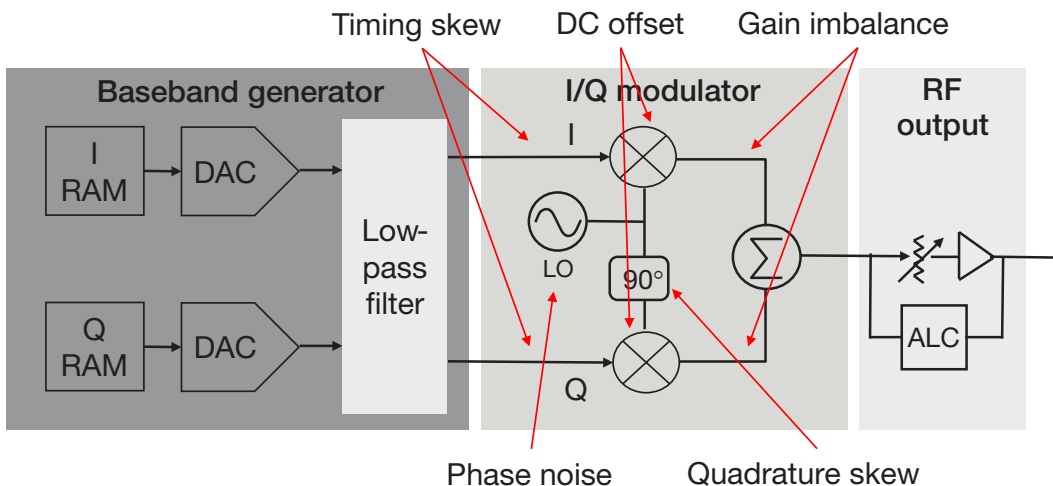

Figure 9. A block diagram of an I/Q modulator and possible errors
The I (in-phase) and Q (quadrature) signals from the baseband generator's output travel to the I/Q modulator and upconverts to an intermediate frequency (IF) and RF signal. Figure 9 shows that before combining the I and Q signals, the I and Q signals mix with the same local oscillator (LO). The oscillator then inserts a 90-degree phase shifter in one of the LO paths. Each component in the I/Q modulator contributes a certain kind of error, such as DC offset, timing skew, quadrature skew, gain imbalance, and phase noise.